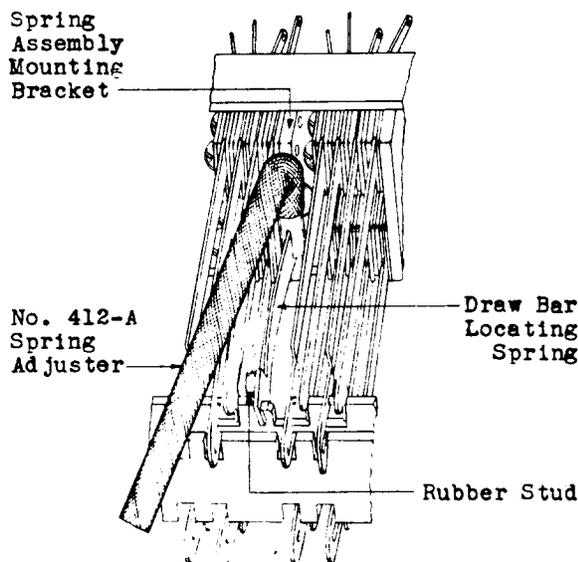

Fig. 20 - Method of Tensioning Draw Bar Locating Spring
(1) Draw Bar Locating Spring Tension If the draw bar locating springs do not have sufficient tension toward the magnet to keep them against the shoulders of the draw bar, thereby insuring that the draw bar will be held in position, increase the tension of the springs using the No. 412-A spring Adjuster. Place the adjuster on the spring directly in back of the rubber stud and slide it back to a point approximately 1/4" from the spring assembly bracket, as shown in Fig. 20, and adjust the spring slightly towards the magnet.